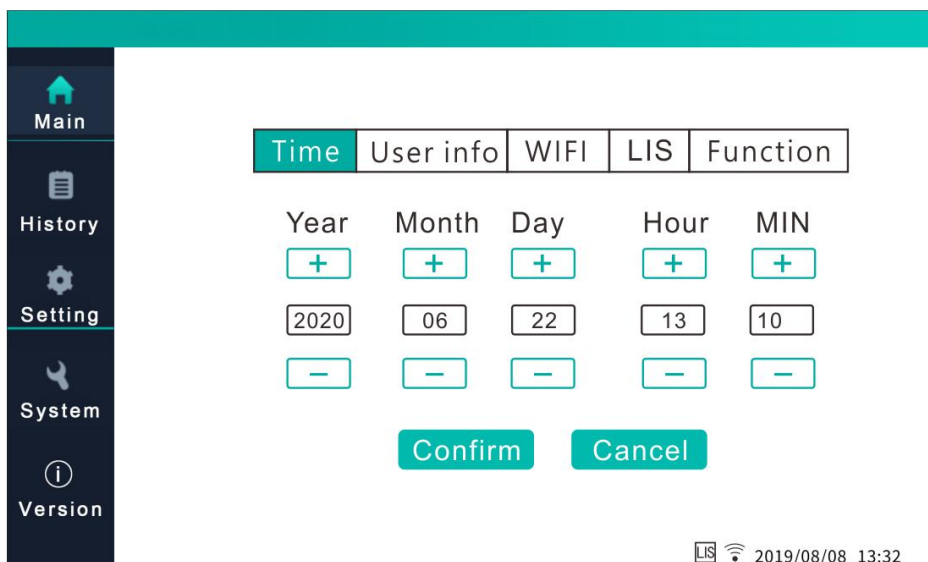

Figure 5.8
4.1 Time setting: Users can set the time of the analyzer here. (See **Figure 5.8**)